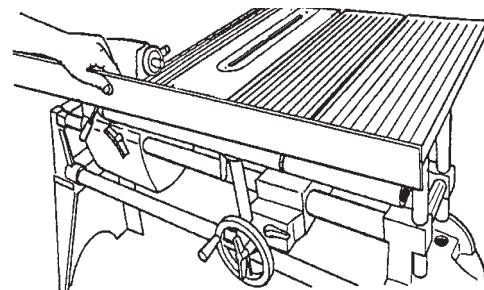

Figure B-104
85. Place the straightedge along the infeed-side tops of both the worktable and extension table tubes, as shown in Figure B-104.